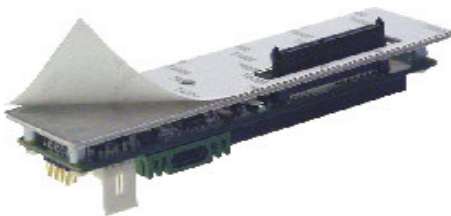

Fig.1
Step 2 Remove the sticking paper on the holder of AEC-7732U (Fig.1)